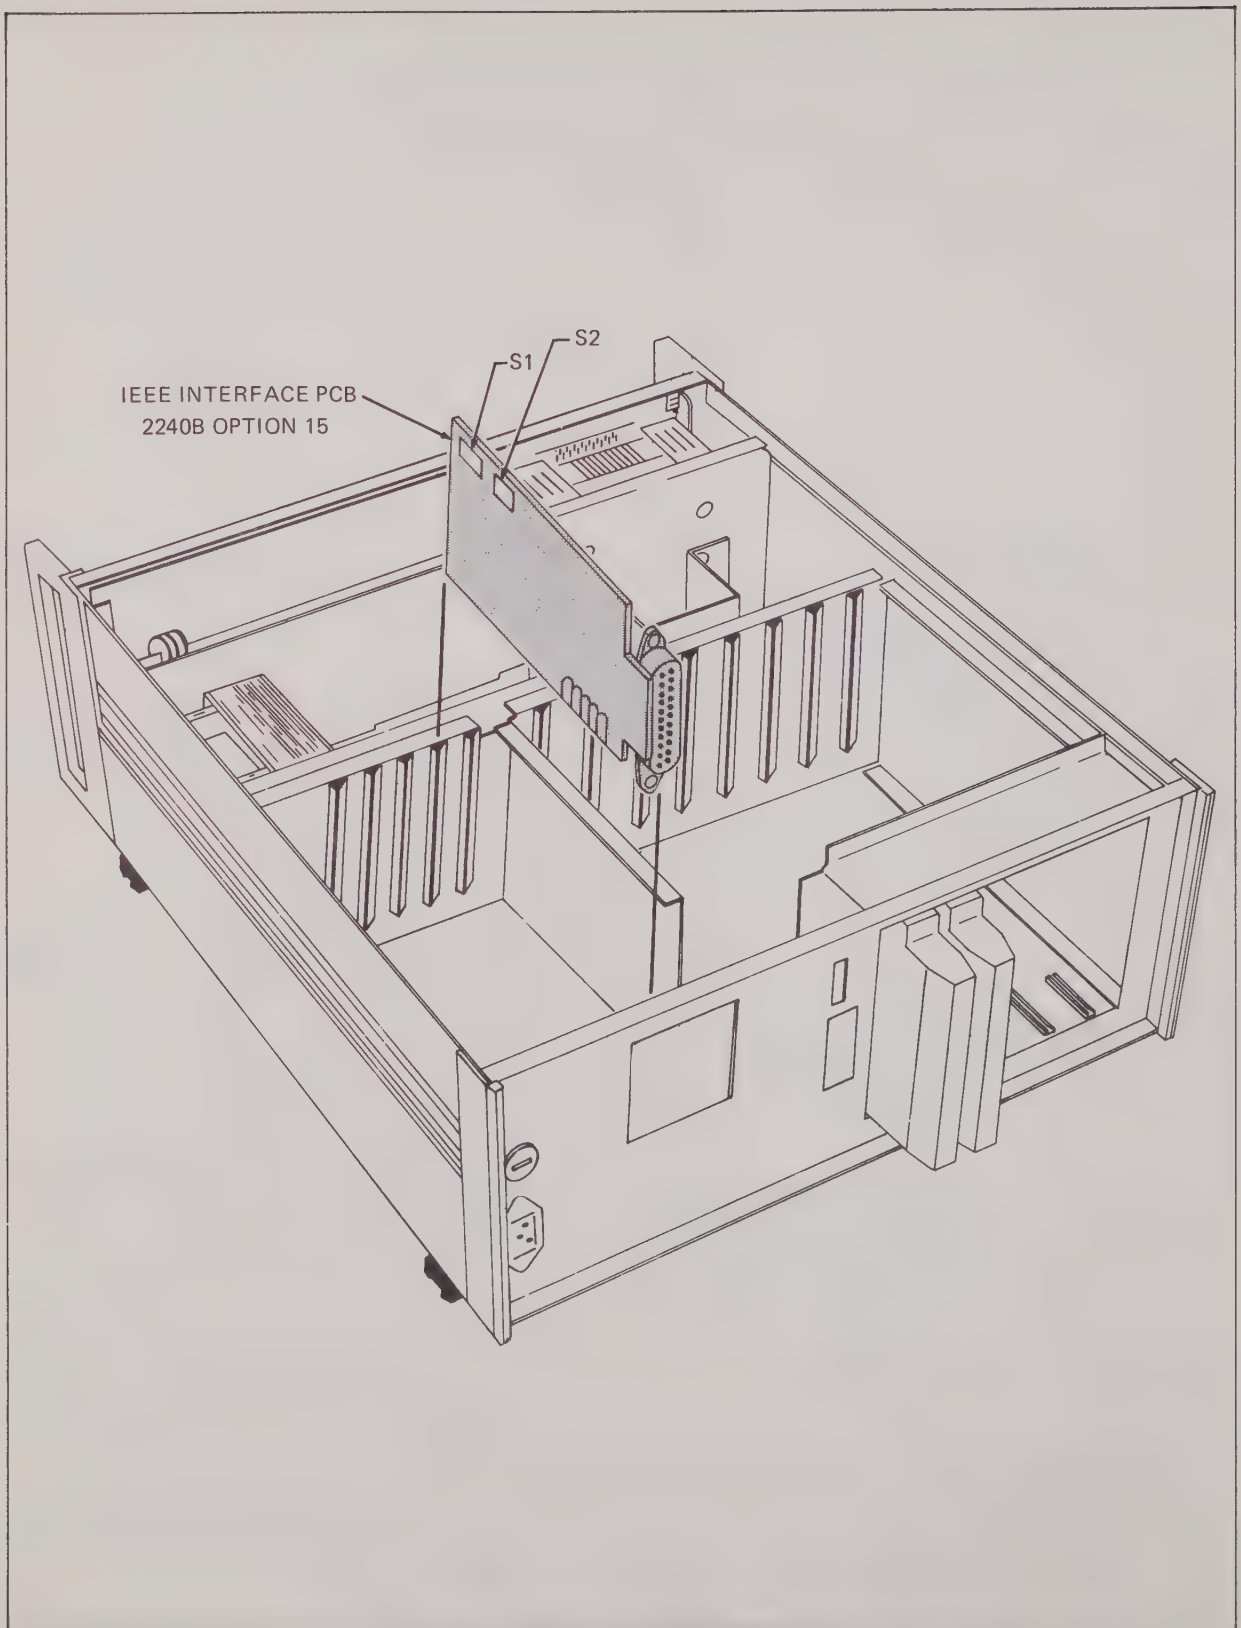

Figure 615-1. Installation and Switch Locations
615-9. The IEEE Interface PCB can be installed in any one of the data logger I/O slots shown in Figure 615-1. To install the pcb in a data logger, use the following procedure:
5. Locate Switch S1 on the pcb as shown on Figure 615-1.